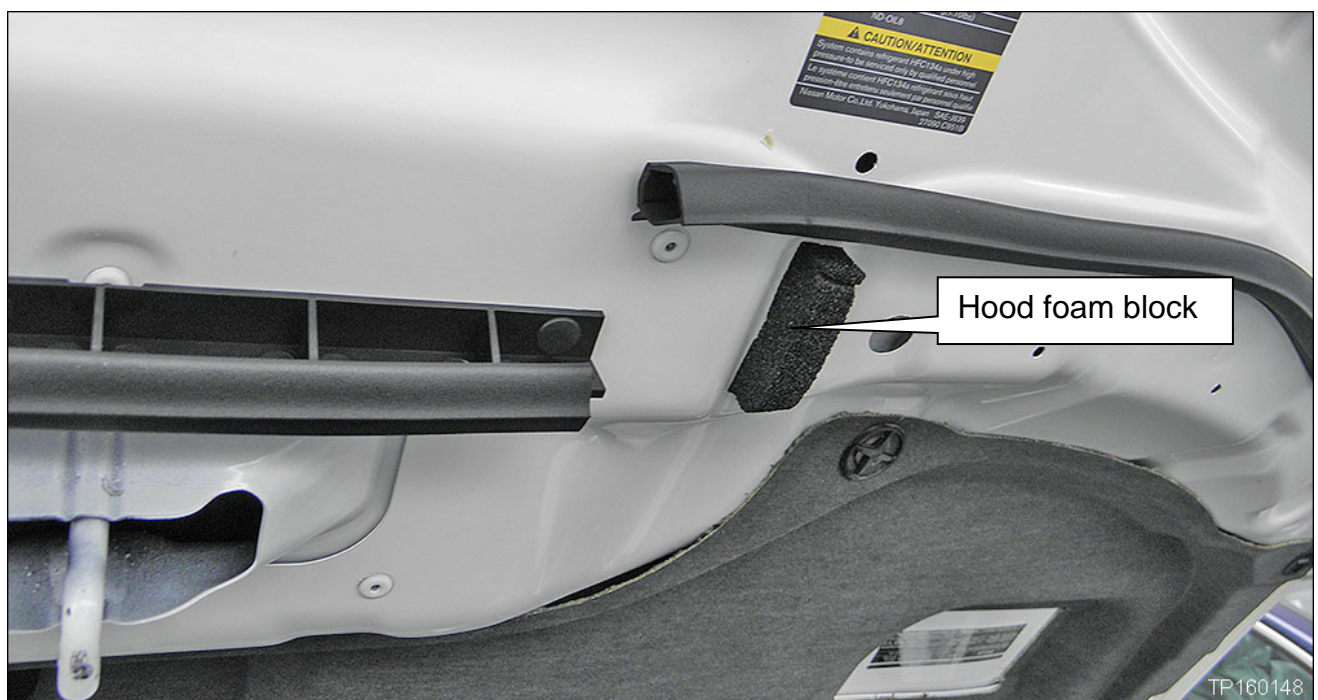

Figure 1
4. If a piece of foam is present in the location shown in Figure 1, remove it.